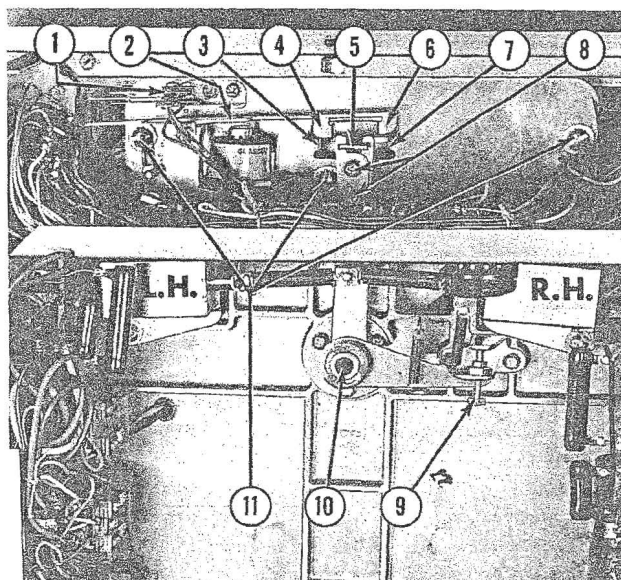
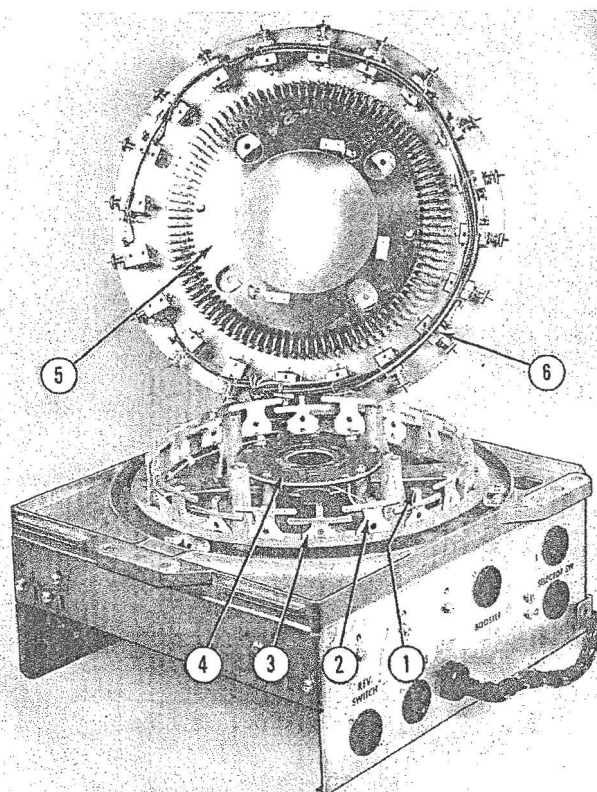
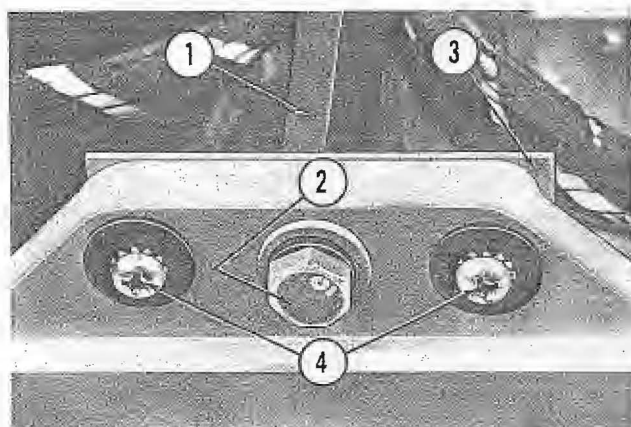
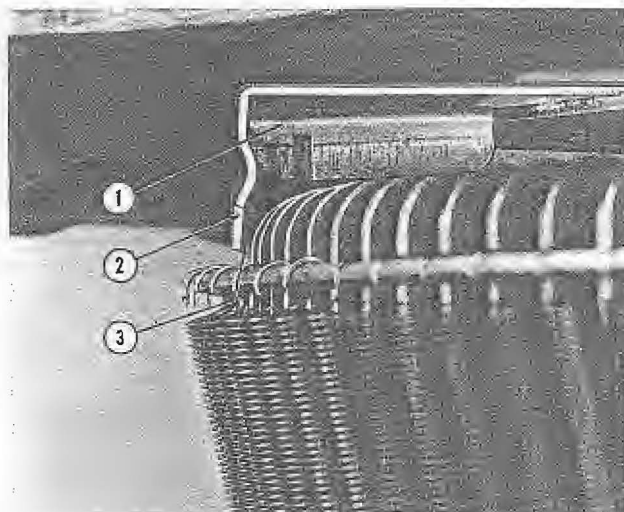

Fig. 33. ELECTRIC SELECTOR, 2410
Fig. 35. ELECTRIC SELECTOR ASSEMBLY, 2410
Fig. 39. GUIDE PLATES AND MOUNTING
Fig. 40. ELECTRIC SELECTOR CENTERING
(1) The adjusting screws (Fig. 33, Item 8) should be loosened and the guide plate set to zero clearance with the stop bracket (Item 5) on the rocker plate assembly.
(2) The adjusting screw (Item 9) should be set to align the tips of the rocker arms (Fig. 35, Item 1) with the selector pins number 3, A through
(3) Loosen the three mounting screws (Fig. 33, Item 11) and manually move the rocker plate until the stop bracket (Item 5) rests against the extreme right hand stop (Item 7). In this position the tips of the rocker arms (Fig. 35, Item 1) should align with the selector pins number 1, A through K and pins number 6, A through K. The mounting plate held by the screws (Item 11) may be moved to provide the correct alignment.
(4) Check the rocker arm alignment while holding the rocker plate in the extreme left hand stop position (Item 3). The tips of the rocker arms should be in alignment with selector pins number 5, A through K and pins number 0, A through K.
The stop magnet switch (Fig. 33, Item 1) should be set to provide a $1/32$ " gap at the normally open contacts and have a $1/32$ " wiping action when the switch is actuated. They should be adjusted to make before break.
j. Centering of the 100 selection selector pin assembly normally is not required if the original assembly is retained with its changer. The mounting is the same as the 104 assembly. However where selector pin assemblies are interchanged on the 100 selection changer the guide plates, one of which is shown in Figure 39, Item 3, should be loosened. The assembly loosely mounted on the three studs and centering shaft #69247 inserted through the center bushing (Fig. 33, Item 10) into the main shaft. Tighten the guide plate retaining screws and the three mounting screws. Remove the centering shaft and check the selector crank arm adjustments and for correct selections.
k. Centering of the 104 selector pin assembly has been carefully done at the factory and if the original assembly is kept with its changer it will not need recentering provided the alignment plates, one of which is shown in Figure 39, Item 3, are not disturbed. The assembly may be easily removed by disengaging all cable plugs and removing 3 mounting screws (Item 2). The screws (Item 4) should not be loosened. However, if a selector pin assembly should be mounted on another changer the alignment plates must be loosened. The pin assembly should be loosely mounted on the 3 studs and the centering clip (Fig. 40, Item 2) snapped in place on the selector crank arm (Item 1). Shift the pin assembly on its mounting studs to obtain a uniform clearance between the centering clip and all selector pins (Item 3). Tighten the alignment plate retaining screws and the mounting screws. Check the selector crank arm adjustments and for correct selection.